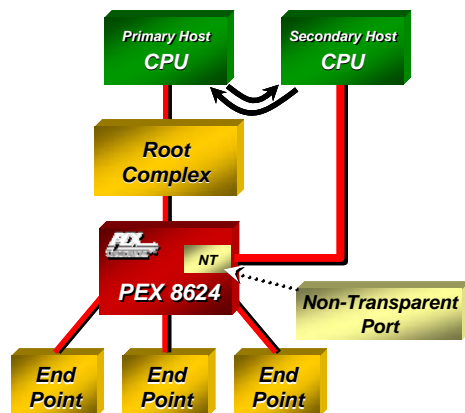

Figure 2. Non-Transparent Port
The PEX 8624 product supports a **Non-Transparent (NT) Port**, which enables the implementation of **multi-host systems** in communications, storage, and blade server applications. The NT port allows systems to isolate host memory domains by presenting the processor subsystem as an endpoint rather than another memory system. Base address registers are used to translate addresses; doorbell registers are used to send interrupts between the address domains; and scratchpad registers (accessible by both CPUs) allow inter-processor communication (see Figure 2).